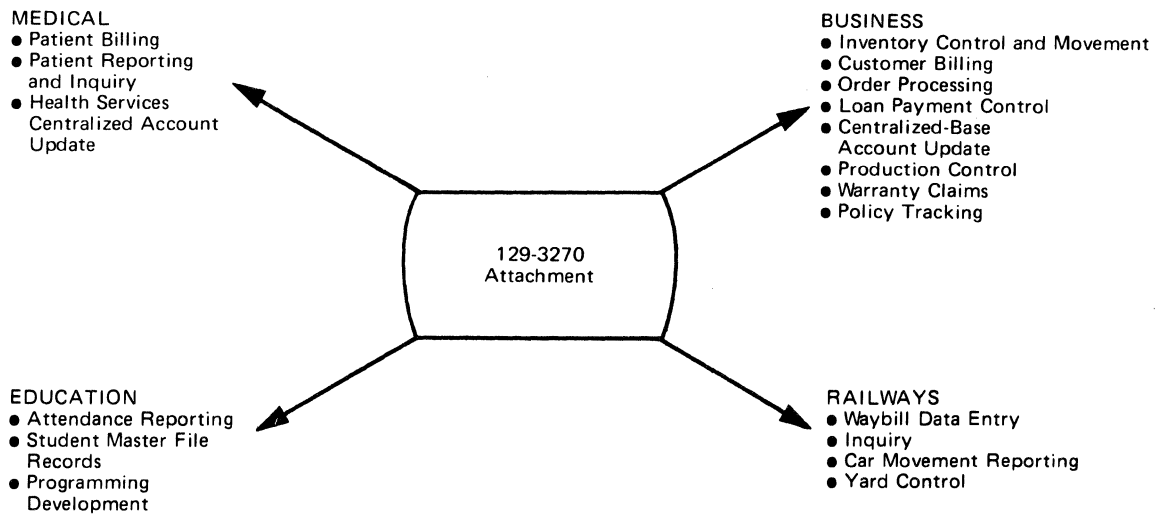

Figure 1. Suggested Applications of the 129-3270 Attachment
- Figure 1. Suggested Applications
Figure 1 suggests applicability of the 129 attachment to card-oriented data processing.